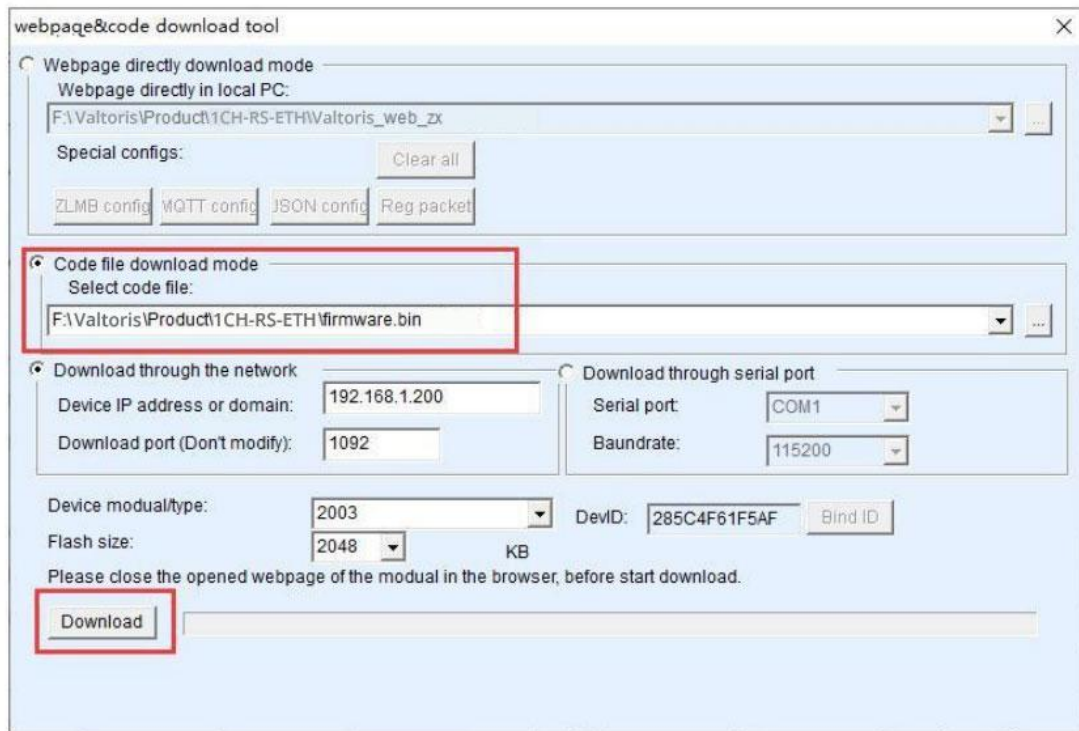

Figure 52 16CH-RS232/485/422-ETH firmware upgrade method
3. As shown in Figure 52, select the "Program File Download" option. In the program file, select the firmware file. The IP address part of the serial server has been filled in automatically, and there is no need to write it again. The module type/model has been automatically selected. Then click download.